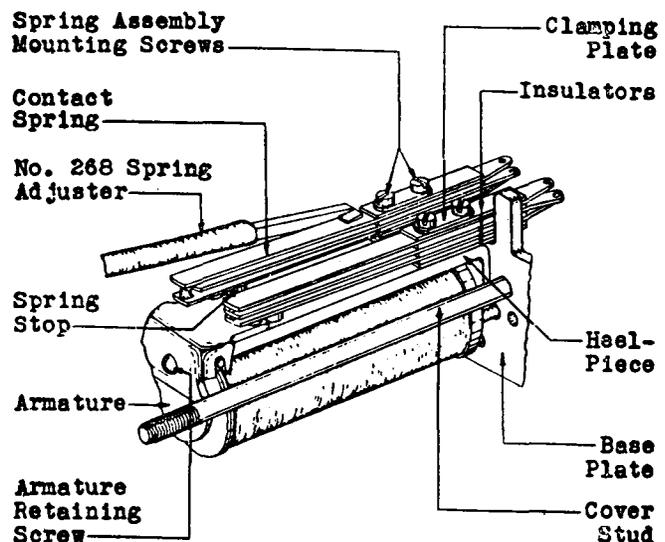

Fig. 6—Method of Adjusting for Contact Pressure of All Relays Except 194- and 366-type Relays
(7) **All Relays Except 194- and 366-type Relays:** Adjust the spring as required with the No. 268 spring adjuster. Place the adjuster on the front end of the spring but in back of the contacts and armature studs and slide it back to a point about 1/4" from where the spring leaves the spring assembly as shown in Fig. 6. Adjust the spring at this point with a slight twist upward or downward as required, exercising care not to disturb adjacent springs.